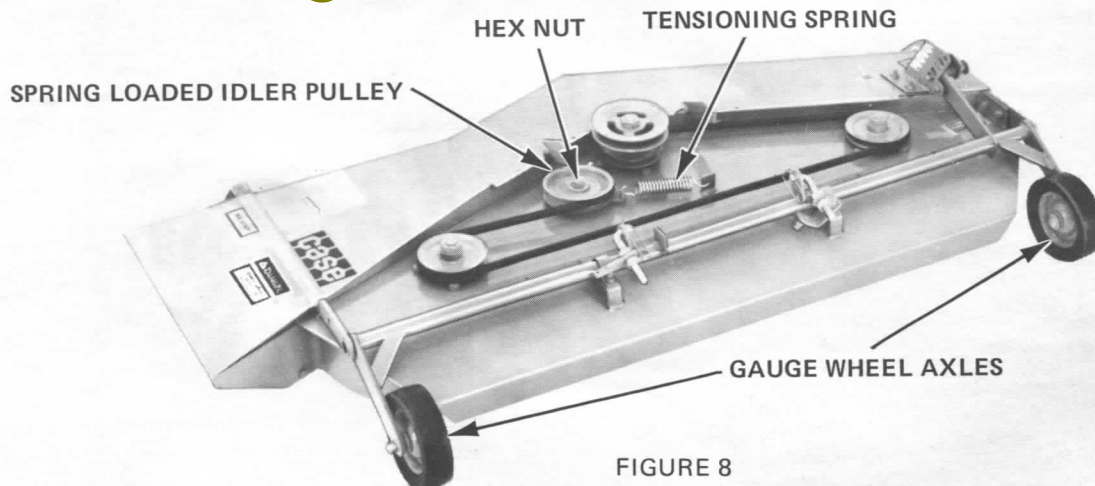

FIGURE 8
3. Mower Gauge Wheels. See Figure 8.